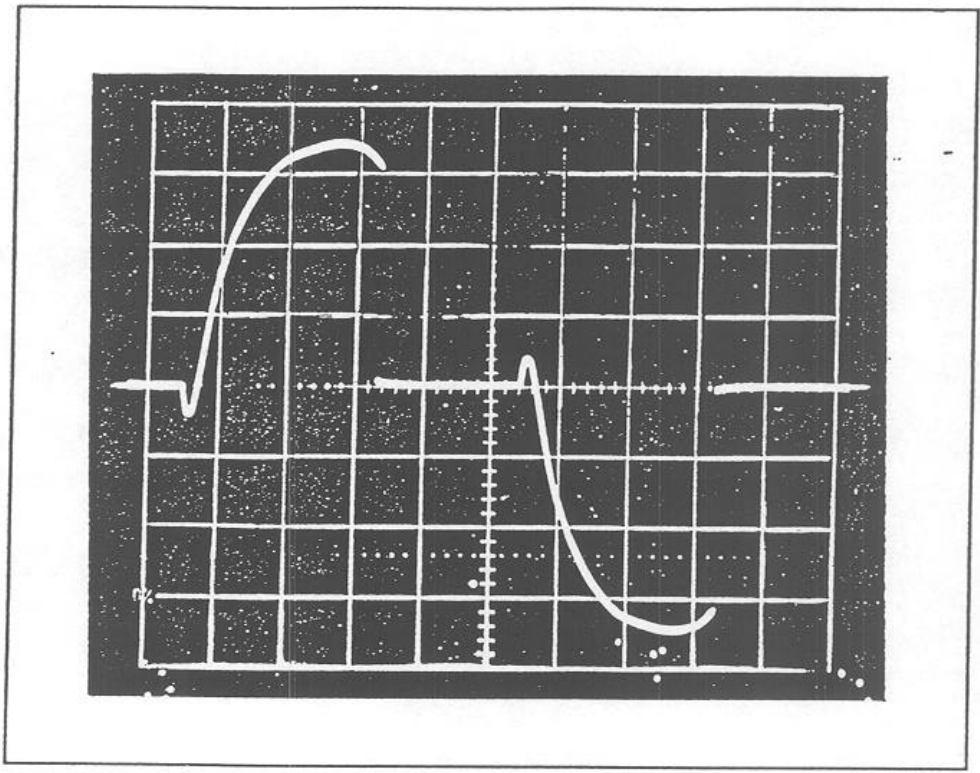

Figure 1: Triac conduction at idle, viewed at MT2 (cathode).
The firing angle of triac TR1, which controls the voltage on the primary of the transformer, is determined by the active voltage divider formed by OC1 and R4/R5 on the regulator board. D1, D2, D3 and D4 provide voltage "steering" for OC1, which makes it possible to use the bipolar device for AC control. This voltage divider drives the passive RC phase shift network composed of R3, C3, R2 and C2. When the voltage on C2 reaches the 40V trigger voltage of the diac (DC1), the triac will be triggered (see Figure 1).
- a) Check voltage waveform across diac (see Figure 1).
- 1) Shorted triac (Check waveform at MT1 and MT2 - See Figure 1).
- 3) Shorted triac. This will cause excessive primary current at idle. Check voltage waveform across the triac (see Figure 1).